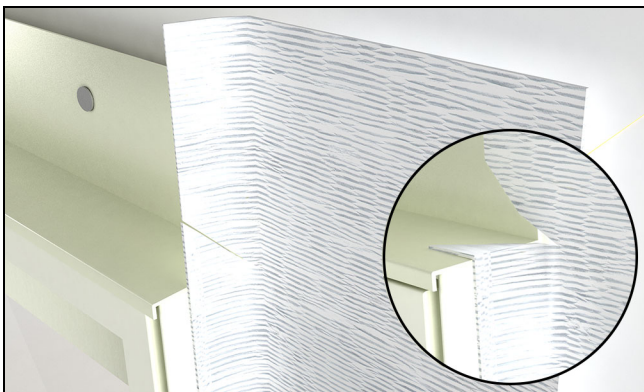

Figure 12
6. Lap vertical strips of adhesive flashing tape onto the unit and out over the WRB. Make small diagonal cuts at the head jamb as in Figure 12 to allow the membrane to fold back onto the exterior and frame.